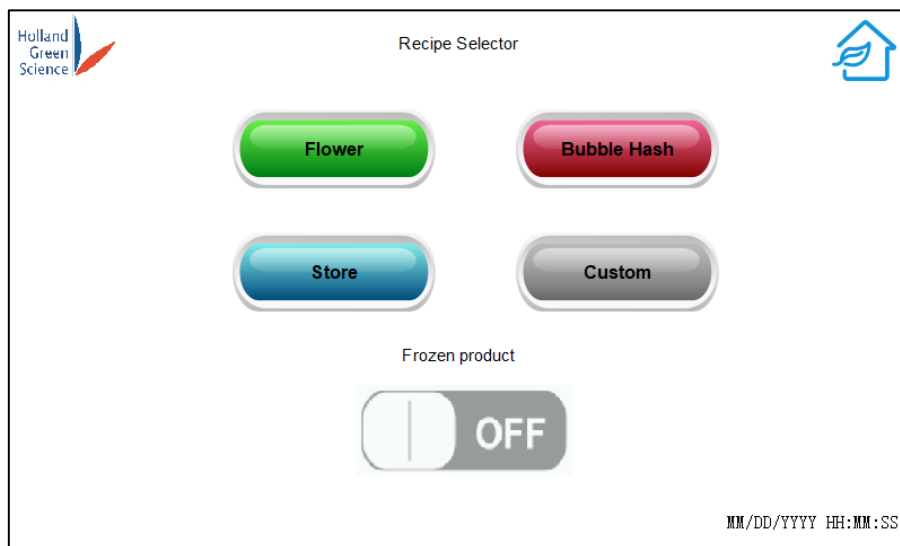

Figure 33
- Prefreeze Time:** When the “Frozen product” option is switched “OFF” in the Recipe Selector page (Figure 33), meaning the product is not frozen, the program will start cooling the product once the auto-drying program starts. The program will move to the next stage (Evacuation stage) only when the shelf temperature has been lower than the *Prefreeze Temp* for the duration set in the *Prefreeze Time*.